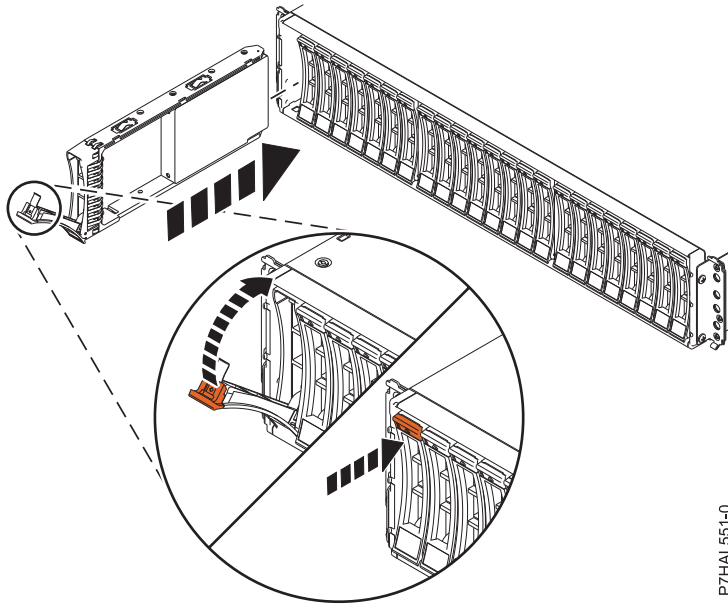

Figure 35. Installing or replacing the disk drive in an ESLL or ESLS storage enclosure
2. With the handle in the unlocked position, as shown in Figure 35 on page 31, support the bottom of the drive as you align it with the guide rails in the enclosure.
6. Lock the drive by rotating the handle (A) in the direction that is shown in Figure 35 on page 31.